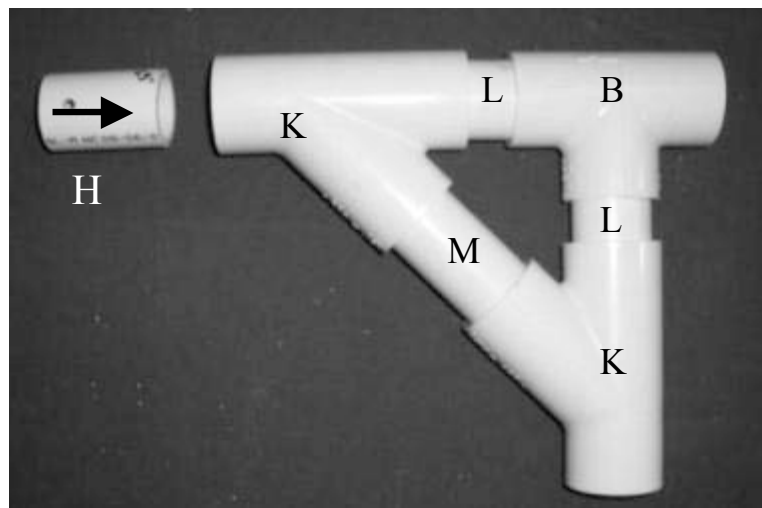

FIGURE 10 – Step 6 – Wheelchair Side Frame.
Step 6. Coat the inner surface of the remaining opening on the horizontally oriented Part K with PVC glue and insert Part H (end without drilled hole) into the opening, making sure to align the holes horizontally at the midpoint as shown in Figure 10. Use the mallet to properly seat the connection.